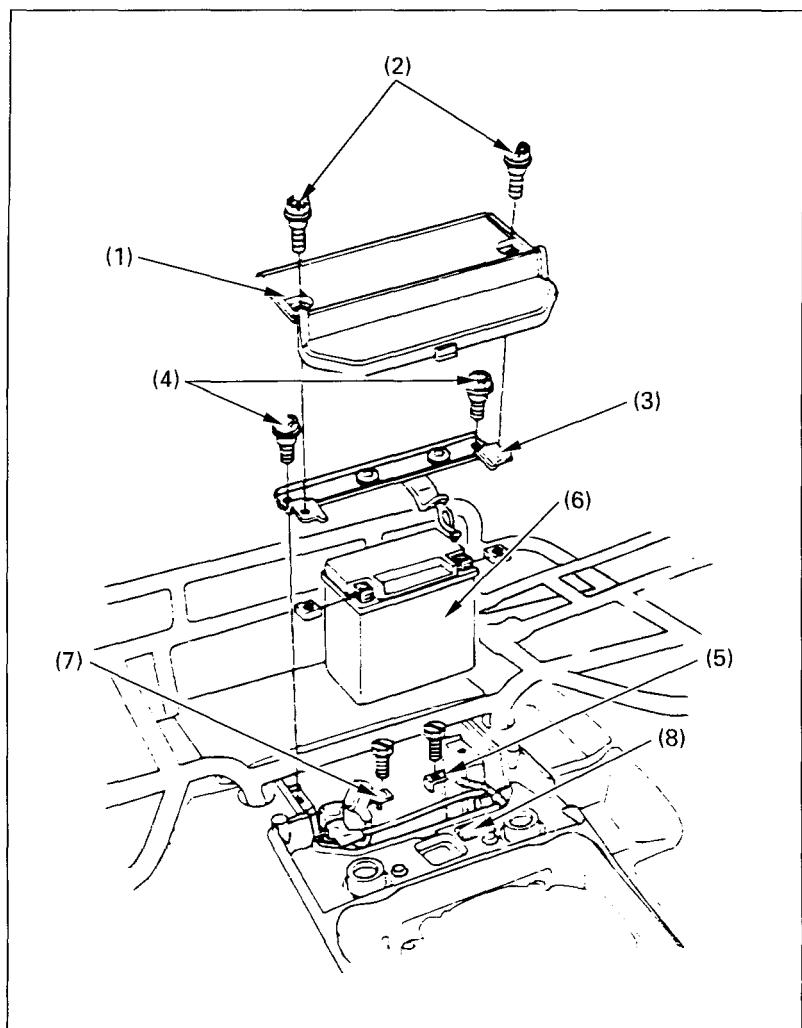

Fig. 4-19 (1) Battery box cover (6) Battery
4. Remove the battery holder ( 3 ), (Fig. 4-19) by removing the mount bolts ( 4 ).